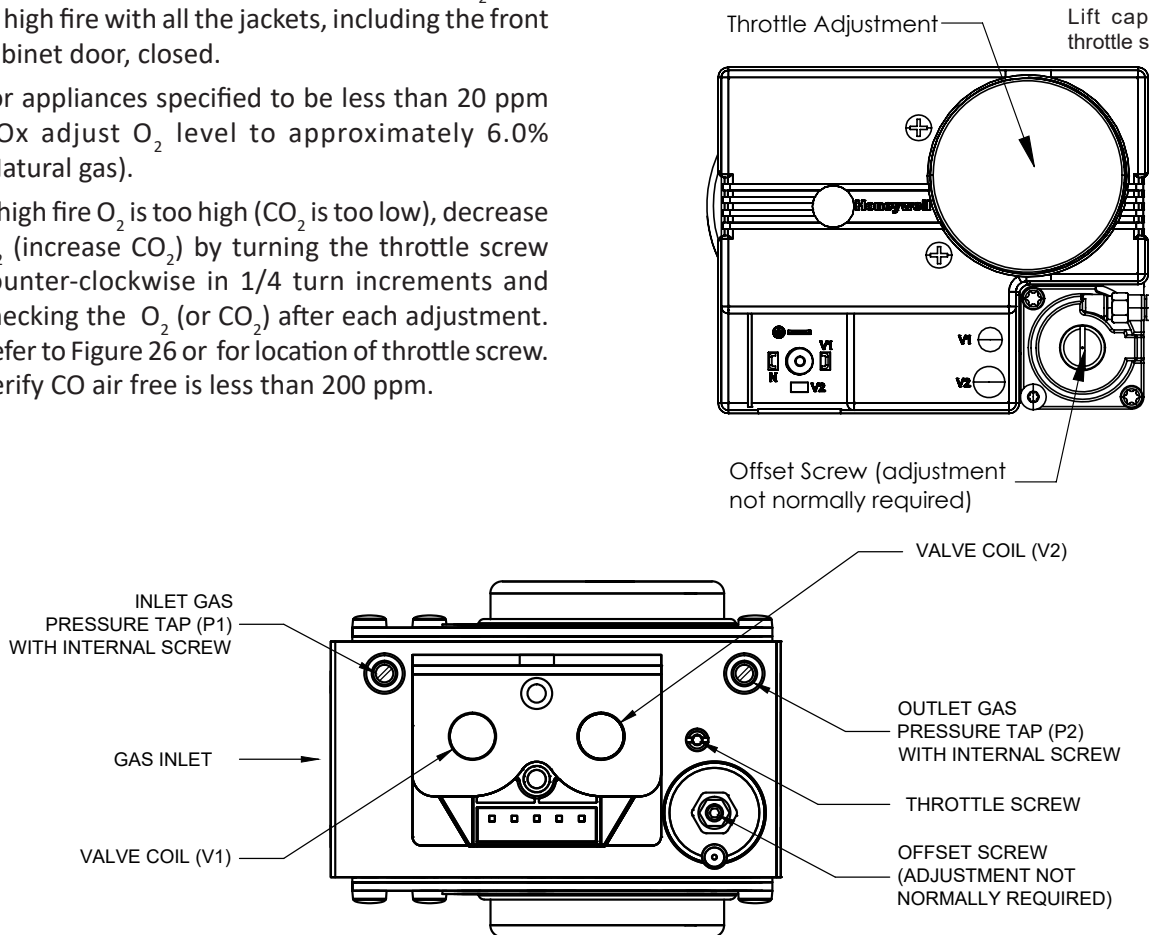

Figure 26: 400-1000L Gas Valve Adjustment
- d. If high fire O_2 is too high (CO_2 is too low), decrease O_2 (increase CO_2) by turning the throttle screw counter-clockwise in 1/4 turn increments and checking the O_2 (or CO_2) after each adjustment. Refer to Figure 26 or for location of throttle screw. Verify CO air free is less than 200 ppm.
- e. If high fire O_2 is too low (CO_2 is too high), increase O_2 (decrease CO_2) by turning the throttle screw clockwise in 1/4 turn increments and checking the O_2 (or CO_2) after each adjustment. Refer to Figure 26 for location of throttle screw. Verify CO air free is less than 200 ppm.